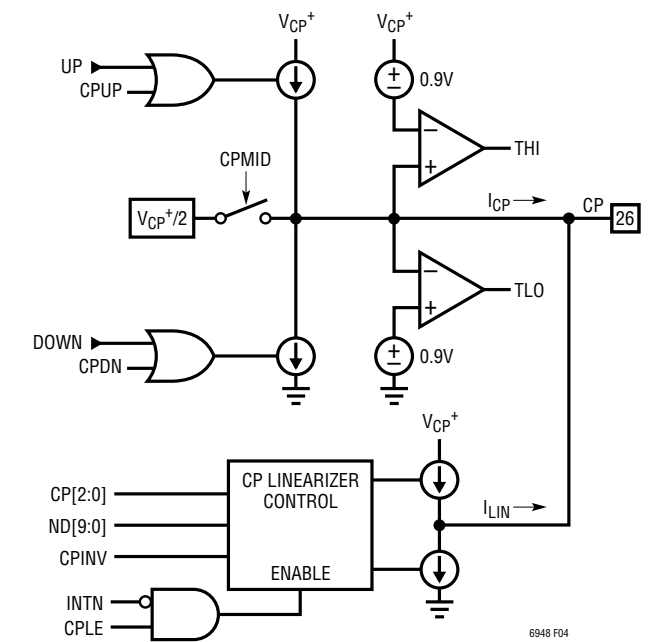

Figure 4. Simplified Charge Pump Schematic
The charge pump, controlled by the PFD, forces sink (DOWN) or source (UP) current pulses onto the CP pin, which should be connected to an appropriate loop filter. See Figure 4 for a simplified schematic of the charge pump.
The CPCHI and CPCLO bits found in register h0D enable the high and low voltage clamps, respectively. When CPCHI is enabled and the CP pin voltage exceeds approximately $V_{CP}^+ - 0.9V$, the THI status flag is set, and the charge pump sourcing current is disabled. Alternately, when CPCLO is enabled and the CP pin voltage is less than approximately 0.9V, the TLO status flag is set, and the charge pump sinking current is disabled. See Figure 4 for a simplified schematic.